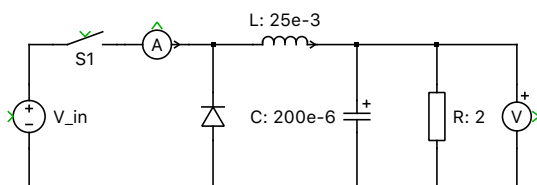

Figure 10: Electrical part of the buck converter
- 2 Build the rest of the electrical part of the buck converter, as shown in Fig. 10.
- 1 After completing the circuit shown in Fig. 10, select all the components (either by clicking an empty space in the upper left corner of the schematic and dragging a frame to the lower right corner, or by using the keyboard shortcut **Ctrl-A**).